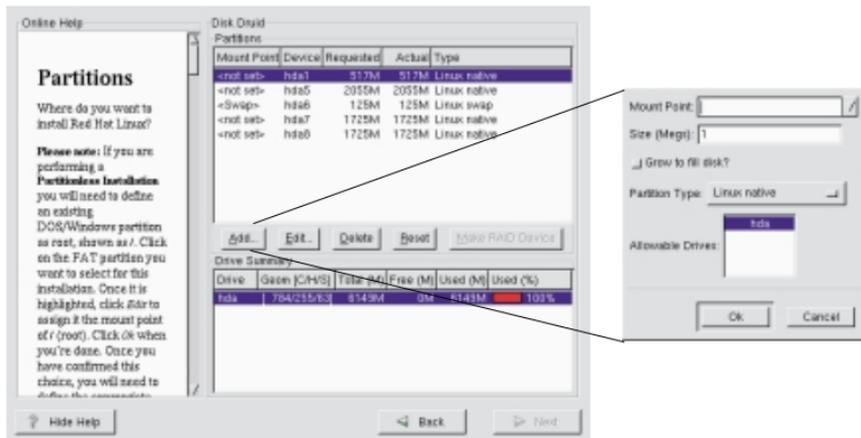

Figure 3 Disk Druid Partitions Window and Pop-up Window
- To configure a workstation drive partition (three are required), begin by clicking **Add** in the **Disk Druid Partitions** window, which brings up a popup window (see Figure 3).